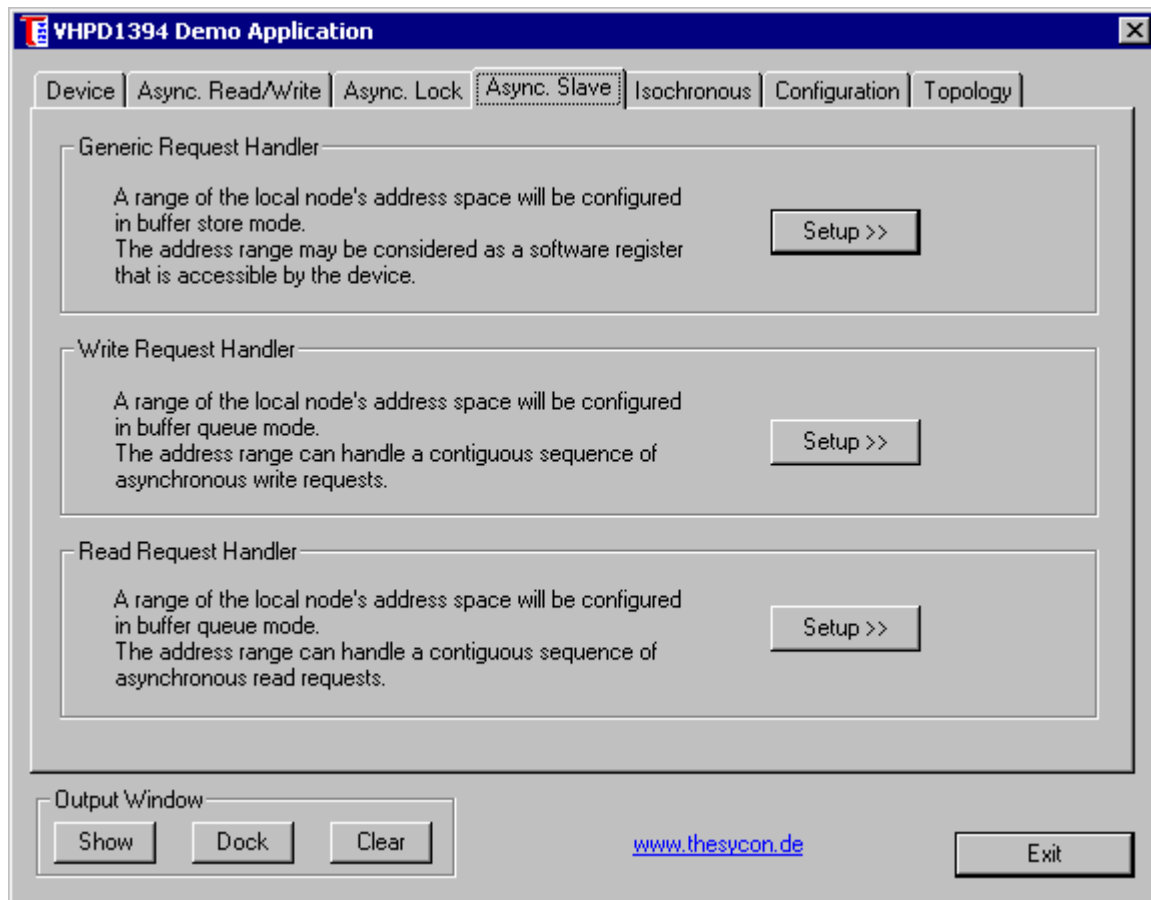

Figure 19: Setup for outgoing asynchronous transactions #1
- Click on "Setup >>" in the "Generic Request Handler section" (see Figure 19)